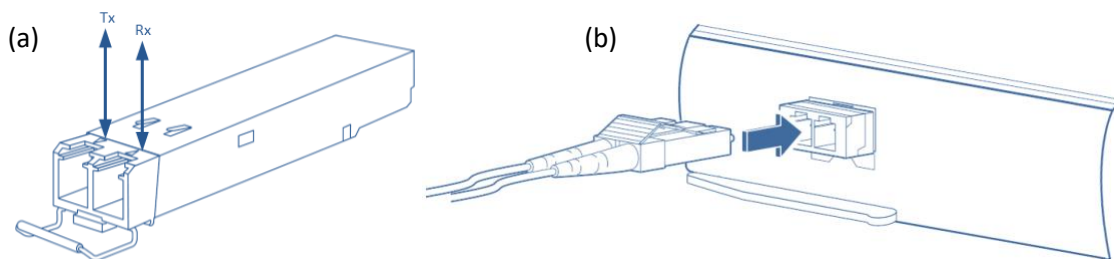

Figure 7 – Interface connecting to the SFP+ Module
- d) On Fiber channel 0 both the TX and RX fiber cables must be connected. On channels 1 through 3 only one fiber cable should be connected. This cable is connected between TX output (Marked with TX or Arrow outwards the SFP+) on the KY-CL2F-D and RX input (Marked with RX or Arrow inwards the SFP+) on the Frame Grabber, as shown in Figure 7 (a).
3. Insert the fiber cable into the module, as shown in Figure 7 (b).